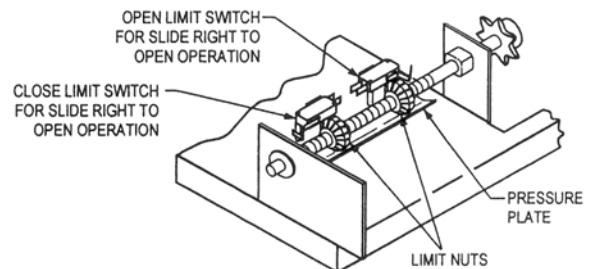

FIGURE 14
2. Depress pressure plate and set grooved limit nuts approximately 1 inch from limit switches on each side (See Fig. 14).
7. Limit adjustment: Depress pressure plate and rotate grooved limit nut, on limit shaft, closest to open limit switch (See Fig. 14). To stop gate earlier, move limit nut closer to open limit switch. To stop gate later, back limit nut away from limit switch. **Note:** When making fine adjustments, turn limit nut 1/4 to 1/2 turn at a time, reconnect power and test run gate.